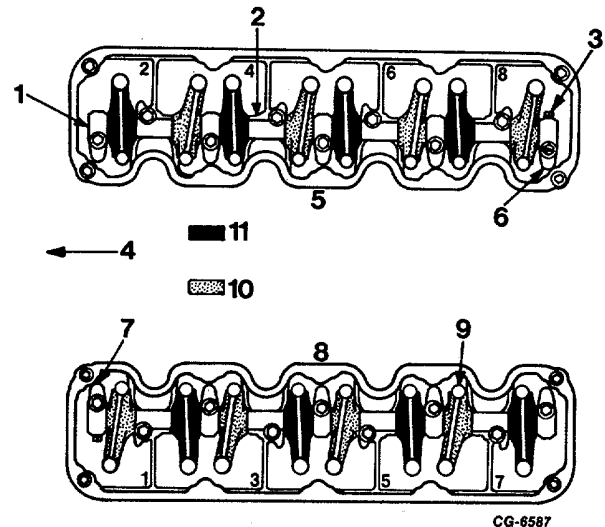

Fig. 125 Rocker Arm Installation
9. Place rocker arms, rocker arm shaft spacers and remaining supports on shaft making sure rocker arm shaft-to-arm oil feed holes are in a downward position. This will properly position rocker arm shaft oil feed holes so that oil feed hole in right rocker arm shaft assembly will be toward the rear, while oil feed hole in left rocker arm shaft assembly will be toward the front. See Figure 125 for correct installation.